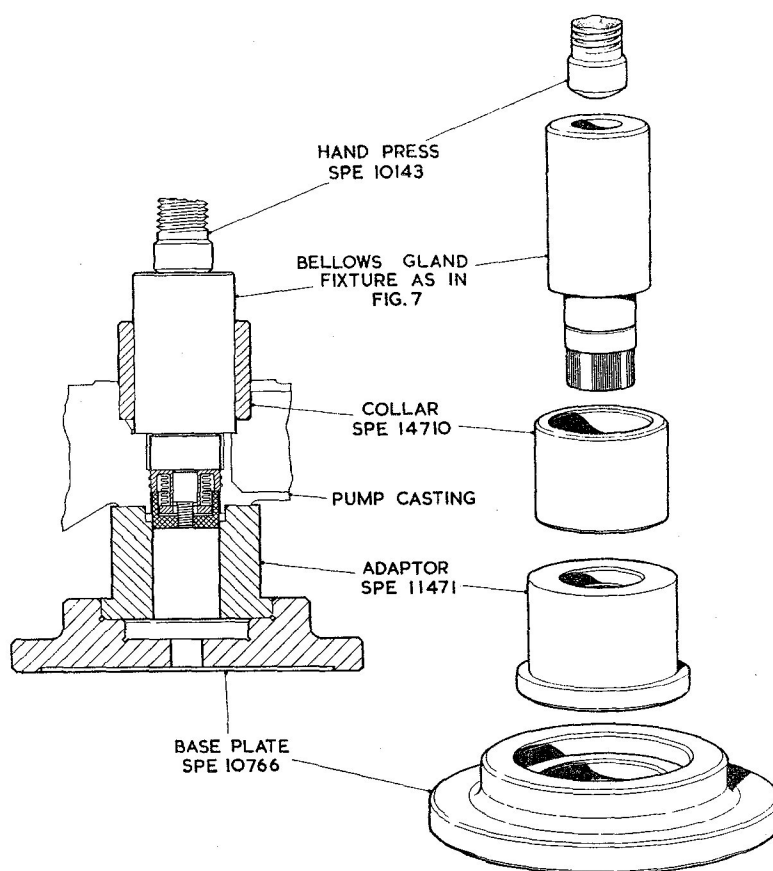

Fig. 8. Tools for positioning the bellows gland
- (b) Pre-heat the pump casting (111A) to between 125 and 150°C. Smear the shroud of the bellows gland with Wellseal jointing compound and press the gland into the pump casting using the tools illustrated in App. 1, Fig. 8 in the hand press SPE. 10143. Turn the handle of the press to the limit of its travel as determined by the tooling to correctly position the gland in the casting.
- (9) Assembling the volute.
- (10) Assembling the delivery outlet.
- (11) Assembling the volute assembly to the pump casting.
- (12) Assembling the upper bearing and